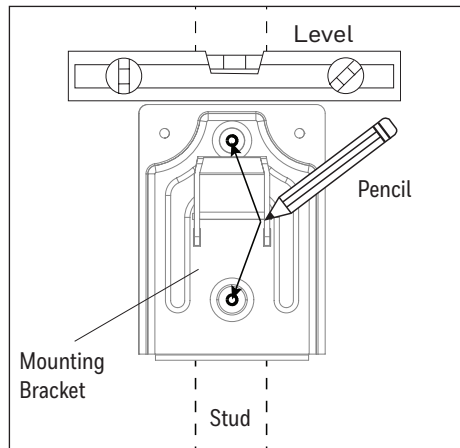

Figure 1.2
2. Use a stud finder (sold separately) to locate the stud to which the fan will be mounted. Determine the desired height of the mounting bracket. Hold the mounting bracket against the wall and use a level (sold separately) to ensure the mounting bracket is level with the horizon. Then, use a pencil and mark the center of the two holes in the center of the mounting bracket. **Note:** When determining the location of the fan, ensure proximity to 120 V grounded outlet. The wall fan's power cord is 9 feet in length (Figure 1.2).